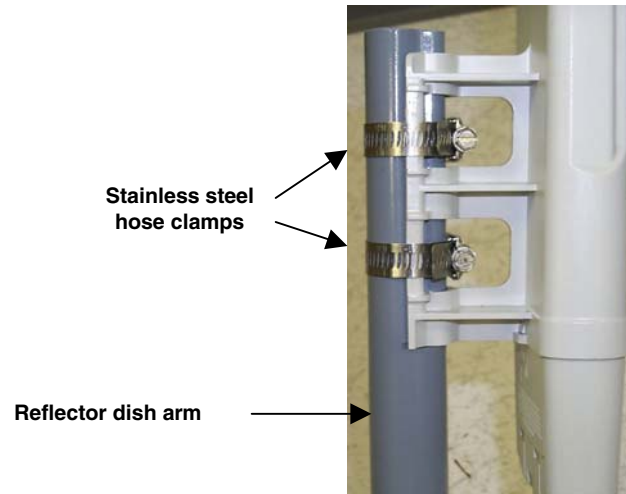

Figure 135: BH attachment to reflector arm
7. Attach the BHM to the arm of the Cyclone Passive Reflector dish assembly as shown in Figure 135.